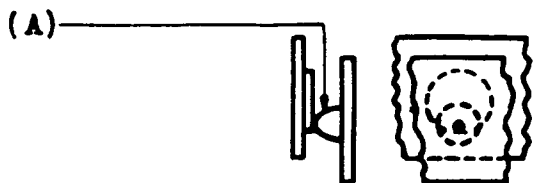

Fig. 1
2.02 **Contact Alignment:** Fig. 1(A) — Contacts shall line up so that the point of contact falls wholly within the boundary of the opposing contact.